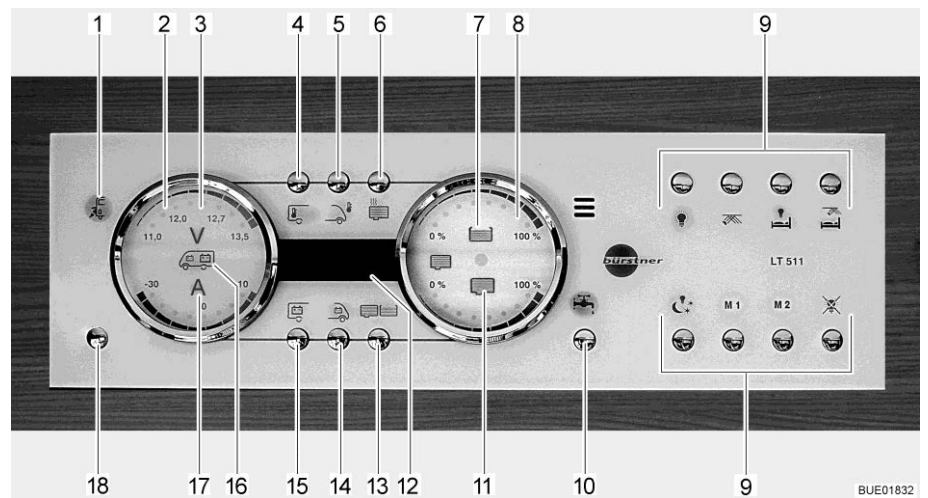

Fig. 140 Panel LT 511
The 230 V indicator lamp (Fig. 140,1) illuminates whenever line voltage is available at the transformer/rectifier input.
The 12 V main switch (Fig. 140,18) switches the panel and the 12 V power supply of the living area on and off.
Switching on: Briefly press the 12 V power supply button (Fig. 140,18). The 12 V living area power supply is switched on. The "12 V" indicator lights up.
- ▷ If, after switching on, the "11.0" LED of the volt indicator and the "V" volt symbol (Fig. 140,3) in the batteries gauge (Fig. 140,2) flash, the voltage of the living area battery is too low. Charge battery.
- ▷ If, after switching on, the "12 V" indicator and the "V" volt symbol (Fig. 140,3) flash three times, battery separation is activated. Deactivate battery separation.
Switching off: ■ Briefly press the 12 V power supply button (Fig. 140,18). The 12 V living area power supply is switched off. The "12 V power supply" indicator goes out.
- Press button for living area battery (Fig. 140,15) and hold it down for approx. 10 seconds. The "V" volt symbol (Fig. 140,3) and the "12 V" indicator flash three times. The living area battery is disconnected from the 12 V power supply.
- Press the 12 V power supply button (Fig. 140,18) and hold it down for approx. 5 seconds. The "V" volt symbol (Fig. 140,3) and the "12 V" indicator flash three times. The living area battery is connected to the 12 V power supply. The indicator lights up after approx. 5 seconds.
- Press button for living area battery (Fig. 140,15). The "V" volt symbol (Fig. 140,3) lights up. The "A" ampere symbol (Fig. 140,17) lights up as either white or red depending on whether it is charging or discharging. The battery voltage and electricity of the living area battery are displayed via the LEDs in the gauge.
- Press button for starter battery (Fig. 140,14). The "V" volt symbol (Fig. 140,3) lights up. The battery voltage of the starter battery is displayed using the LEDs in the gauge.
- Press tanks button (Fig. 140,13). The water tank (Fig. 140,7) and waste water tank (Fig. 140,11) symbols light up. The fill levels of the water tank (upper scale) and of the waste water tank (lower scale) are indicated using the LEDs in the gauge.
Tank alarm The water tank symbol (Fig. 140,7) or waste water tank symbol (Fig. 140,11) flashes when the water tank is empty or the waste water tank is full.
The internal and external temperatures can be indicated using the digital display (Fig. 140,12).
- Press the button for the internal temperature (Fig. 140,4). The internal temperature is displayed.
- Press external temperature button (Fig. 140,5). The external temperature is displayed.
The water pump can be turned on and off using the water pump button (Fig. 140,10).
Switching on: ■ Press the water pump button (Fig. 140,10). The symbol lights up.
Switching off: ■ Press the water pump button (Fig. 140,10). The symbol goes out.